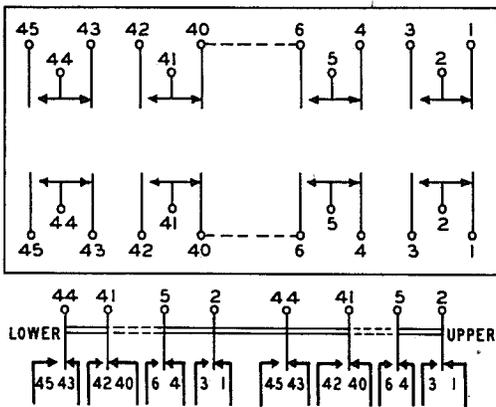

FIG. 50 - SPRING TERMINAL ARRANGEMENT AS VIEWED FROM THE REAR (TERMINAL SIDE) - 202, 211 AND 212 TYPE SWITCHES
3.05 The contact terminals of these switches are numbered consecutively from one up from right to left as viewed from the terminal end of the switch as shown in Fig. 50. Where the word "top" or "upper" is associated with a spring combination on the schematic or if the suffix "T" is used in connection with a terminal number this refers to springs in the upper row of terminals. Likewise the term "lower" or "bottom" or the suffix B refers to terminals in the lower row.